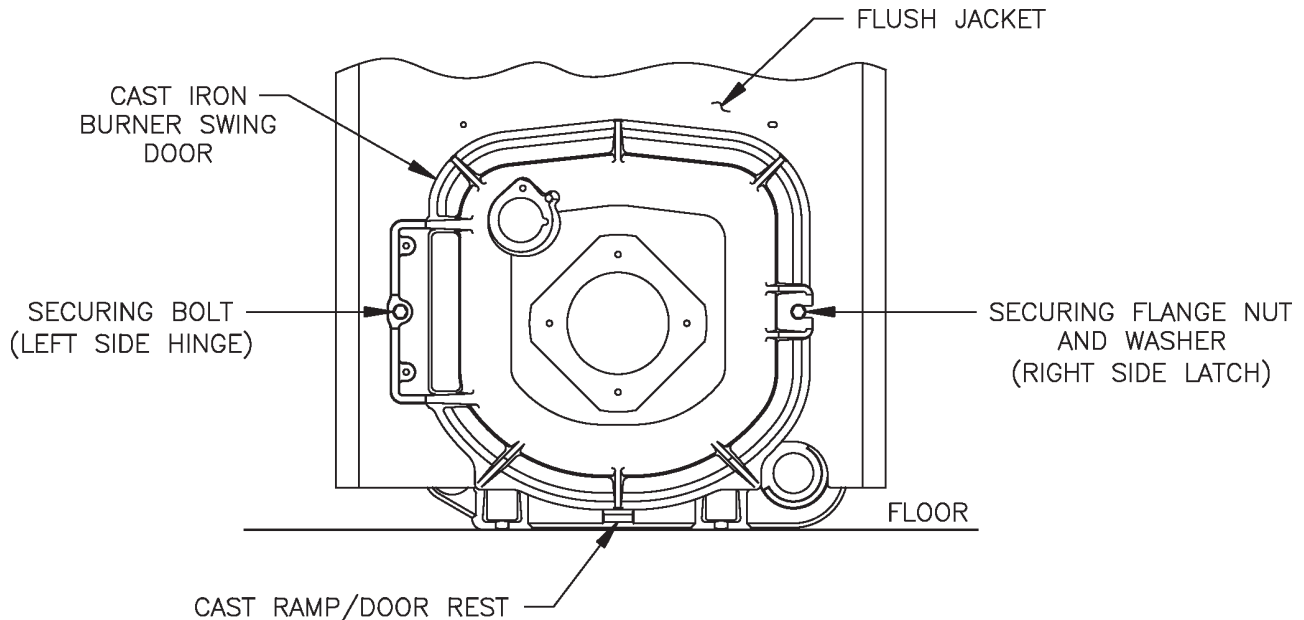

Figure 11A: Partial Front View-Burner Swing Door Mounted to Boiler-Fully Closed and Secured
4. Use the following procedure to properly close and secure the burner swing door after it has been removed and re-installed for Field Assembly (Knockdown Boiler) or opened for inspection, cleaning or field service (refer to Figures 11A and 11B):
Step 1. Lift the door up unto the built-in cast ramp/door rest (protruding from the bottom of the front section casting - see Figure 11A), while rotating the articulated hinge and door to the right and engaging the slot (on right side of door) unto the 5/16" stud protruding from the front section.